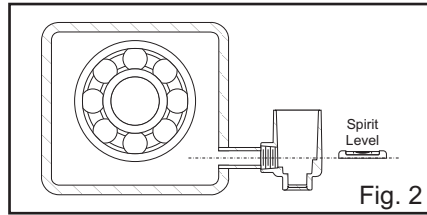
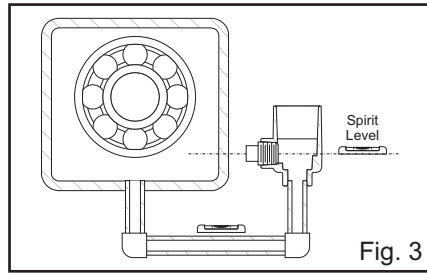

Fig. 2
Fig. 3
5. Connect lower casting to bearing chamber either through the side connection, Type E and EH oilers (Fig. 2) or the bottom connection, Type EB and EHB oilers (Fig. 3). Use thread compound on threaded areas.
6. Verify the lower casting is level and parallel with desired oil level (Fig. 2 and 3). Make necessary adjustments if needed until lower casting is level.